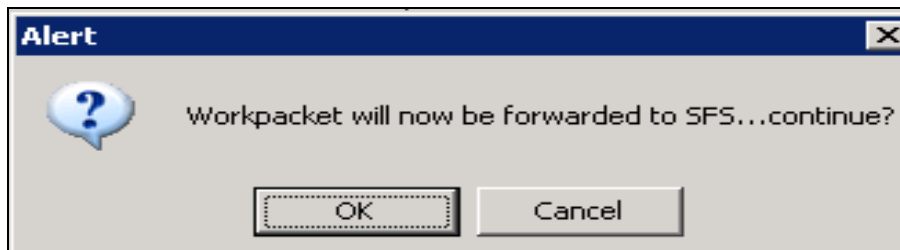

Figure 10-84: Forward Work Packet to SFS Dialog Box
6. The Forward Work Packet to SFS dialog box is displayed (Figure 10-84).